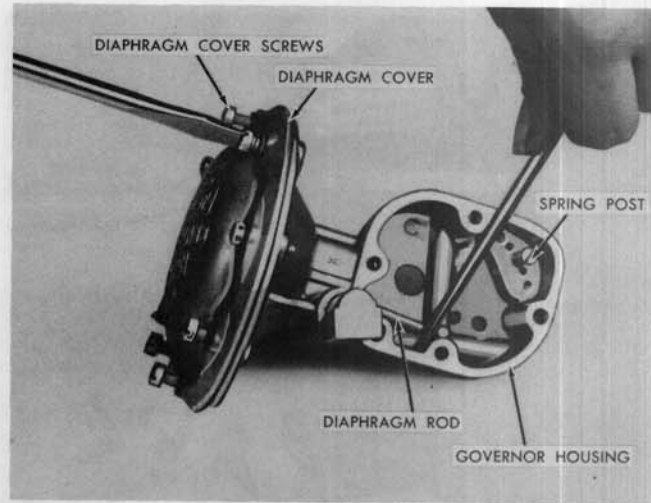

FIGURE 33 — REASSEMBLY GOVERNOR COVERPLATE & DIAPHRAGM
- (5) Keeping the air horn in an inverted position to prevent the fuel inlet needle from dropping out, install the float and lever assembly and the float shaft. With the air horn inverted, the float will drop to the closed position. Place the float gauge as shown in figure 33. The gauge